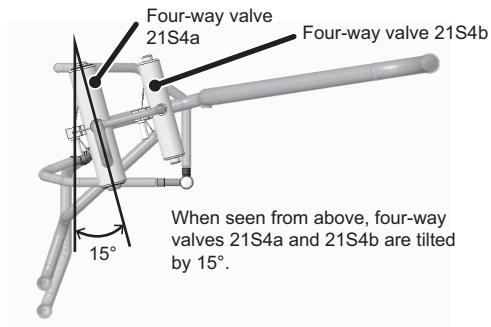

Figure 14-1
(14) Re-place the four-way valves (21S4a and 21S4b) that were removed in step (11). Figure 14-1 shows how to position a new four-way valves.